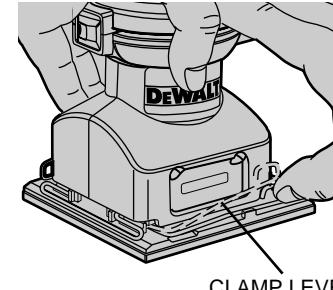

FIG. 2
2. Release clamp by pulling up on clamp lever and disengaging it from the tab on the base plate. (See Figure 2)